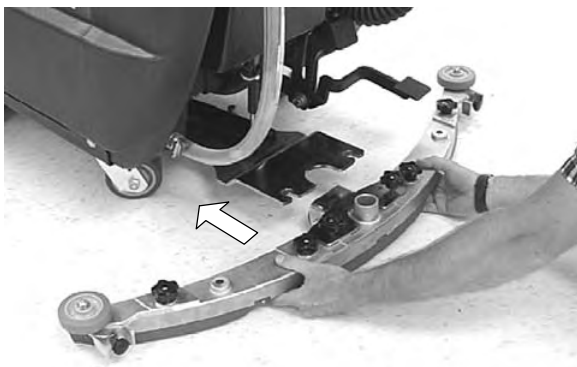

FIG. 5
3. Loosen two thumb knobs on squeegee and slide squeegee into slots at rear of squeegee mount bracket (Figure 5).